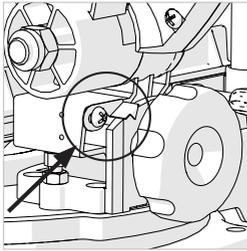

Fig. 7
- Ensure that the Cutting Head is upright, against its stop and the bevel pointer is indicating 0° on the scale. **(Fig. 7)**